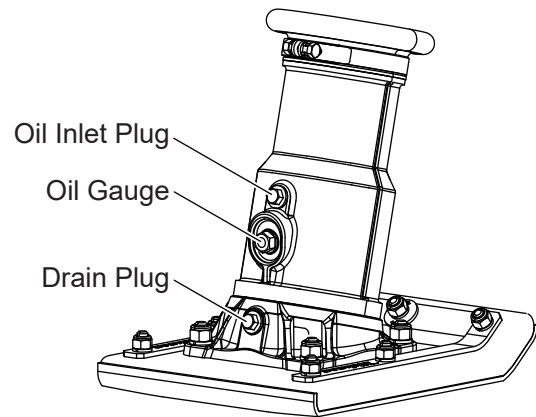

Fig.1
5. Check the main body oil from the oil gauge on the protection sleeve on level ground. (Fig.1)